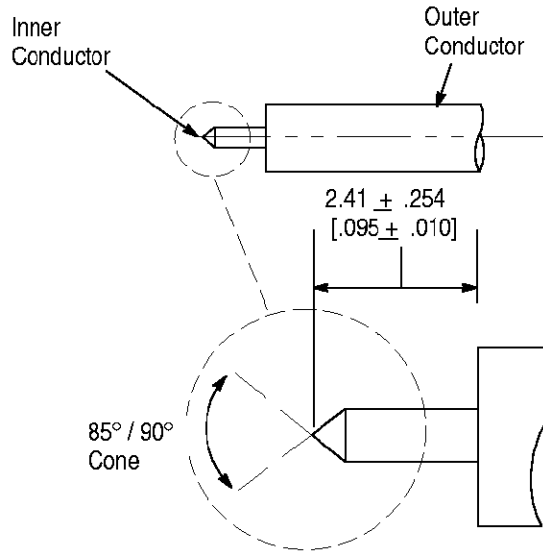

Figure 4
6. File the blunt end of the inner conductor to an 85° to 95° cone. Refer to Figure 4.